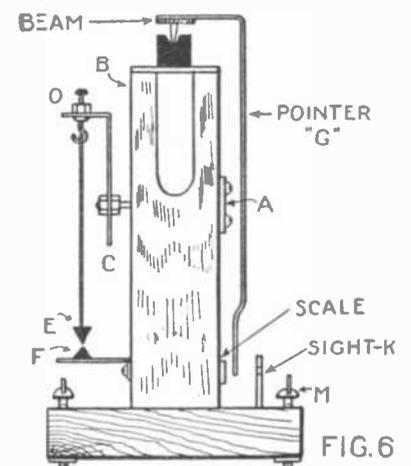

FIG. 6
A pointer is fastened to the top of the beam and passes before a scale near the bottom of the post. This is shown by (G) Fig. 6.
The last thing to make is the plumb bob. Cut a diamond-shaped piece of brass and solder a long slender bolt to the back. Bore a hole through the upright post from front to rear, and then pass the bolt through and screw the plate to the post so that the end of the bolt extends through the back. At (B), Fig. 6, bore a hole near each end of a strip of brass and bend it to a right angle. Fasten this to bolt (B) by a nut before and behind it (see Fig. 6). On top of this
solder a nut and pass bolt (D) through it. Solder a tiny hook to the end of it, as shown. Whittle a small lead plummet, E (—) and split the top. Put a silk thread in the slit and squeeze together. Tie end of thread to hook on bolt D, (—). Solder a tack to a strip of brass and screw it to the post, so it extends out under the lead plumb bob, Fig. 6.